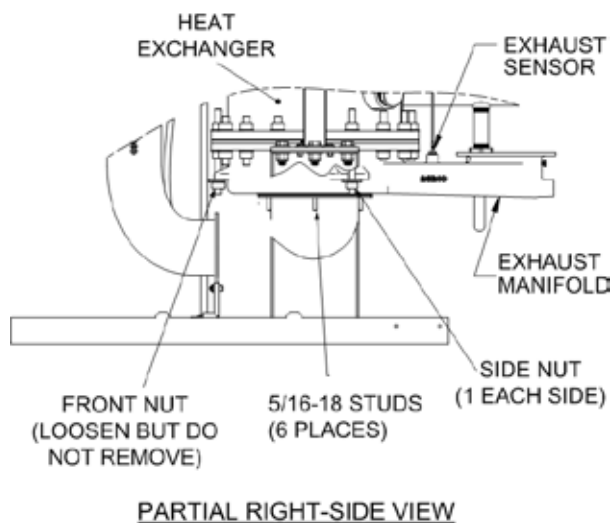

Figure 6-5. Innovation Heater – Partial Cut-Away View
14. While supporting the exhaust manifold, remove the two (2) side nuts (Figure 6-5) securing the manifold to the heat exchanger. Loosen, but DO NOT REMOVE the third nut nearest to the front of the unit.
17. Using a flashlight, inspect the combustion chamber liner (161151) shown in Figure 6-5. Replace the liner if there is evidence of cracking or warping.